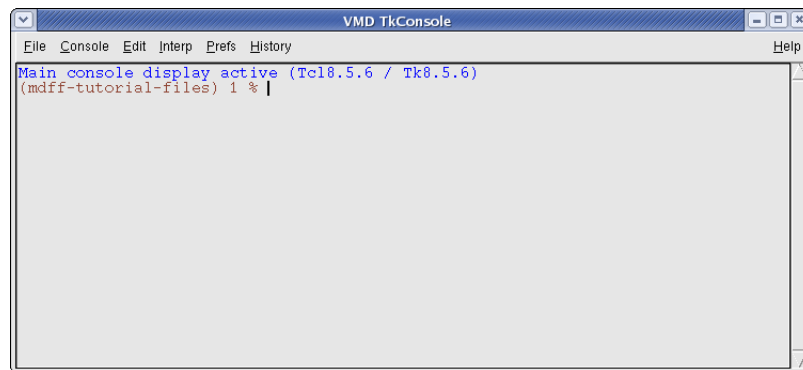

Figure 1: The VMD Tk Console window.
- 1 Start a new VMD session. In the VMD Main menu select **Extensions** → **Tk Console** to open the VMD TkConsole window (Fig. 1). You can now start entering Tcl/Tk commands here.